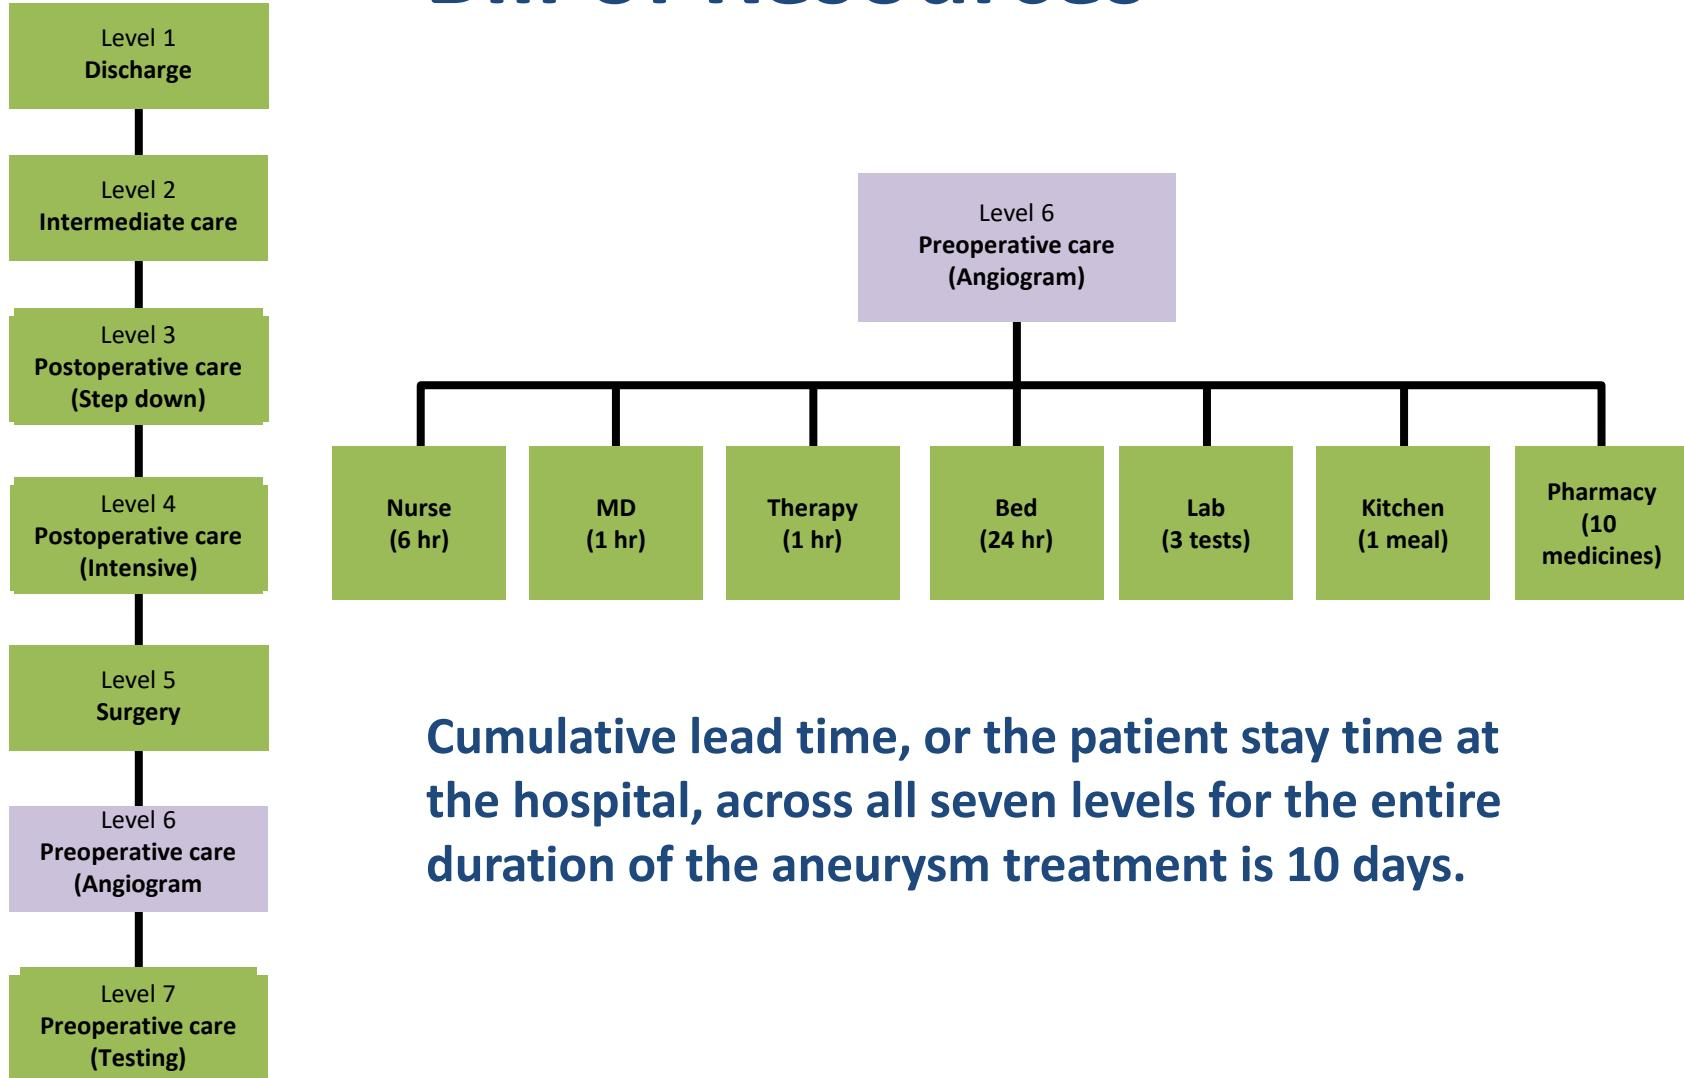

Figure 11.21
- Consider a regional hospital that among many other procedures performs aneurysm treatments. The BOR (Figure 11.21) for treatment has 7 levels.